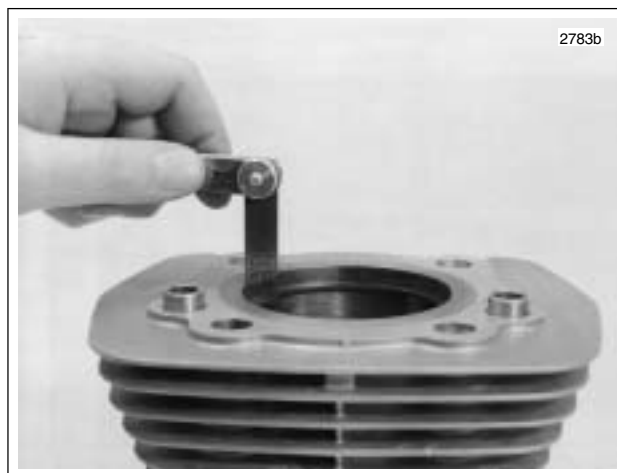

Figure 3-96. Measuring Ring End Gap
1. See Figure 3-96. Insert the **new** ring into the cylinder, square it in the bore using the top of the piston and measure the ring end gap with a feeler gauge. Do not use the ring if the end gap does not fall within the following specifications, See Table 3-23.